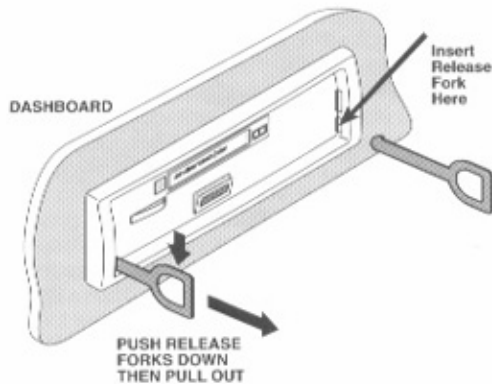

Figure 12. Removing the RX-779.
8. To remove the unit, remove the front panel first (refer to Section "Installing and Removal of Front Panel". Unfasten the metal strap from the rear of the unit. Insert two release forks into the mounting slots (see Figure 12) to engage the spring-loaded lockers. Press the release forks downward and pull the unit out of the mounting sleeve. Disconnect wiring.